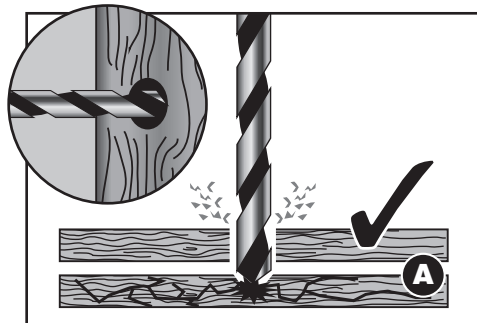

FIG.9
9.3 DRILLING WOOD AND PLASTIC – FIG.9